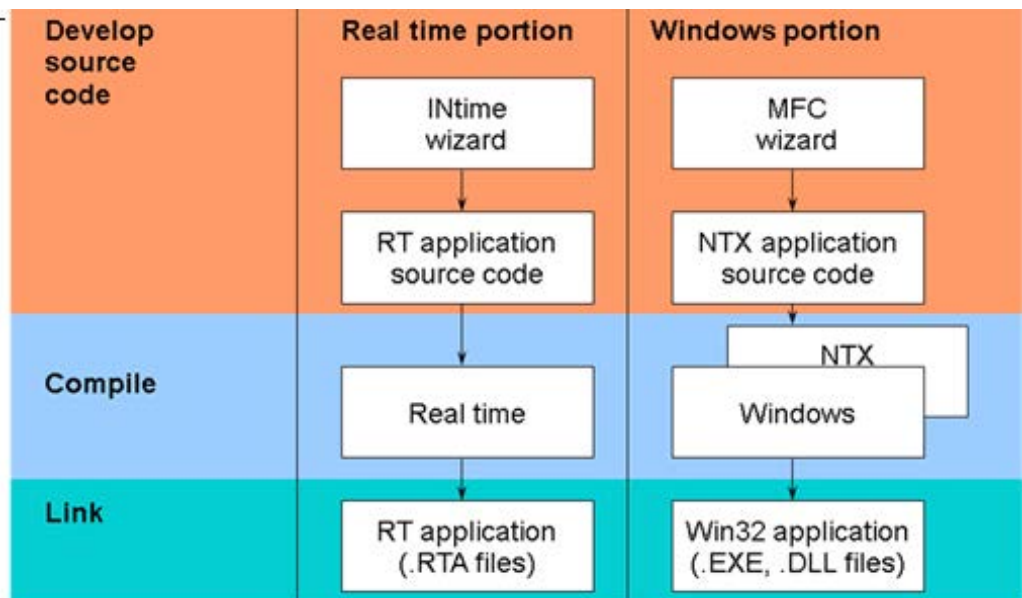

Figure 3 : INtime / Windows development environment
3. When developing the Windows portion of the application and the Real Time portion on INtime, the programmer use the same platform and tools to create / debug the application. The major debugging tool is Visual Studio (all versions possible up to VS 2013). There is also possibility to copy/paste code in C or C++ between the two systems' parts, or import external Windows code to INtime - including parts which involve calling to OS API (INtime has also an API compatible with Windows to allow for this ability). The overall development environment is displayed in Figure 3.